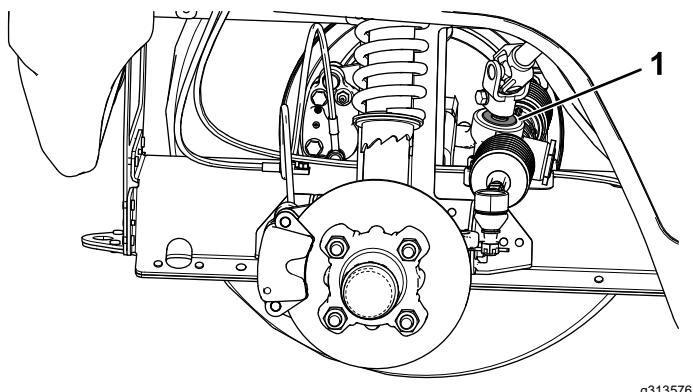

Figure 48
- **Important:** Inspect the condition and security of the pinion-shaft seal (Figure 48).